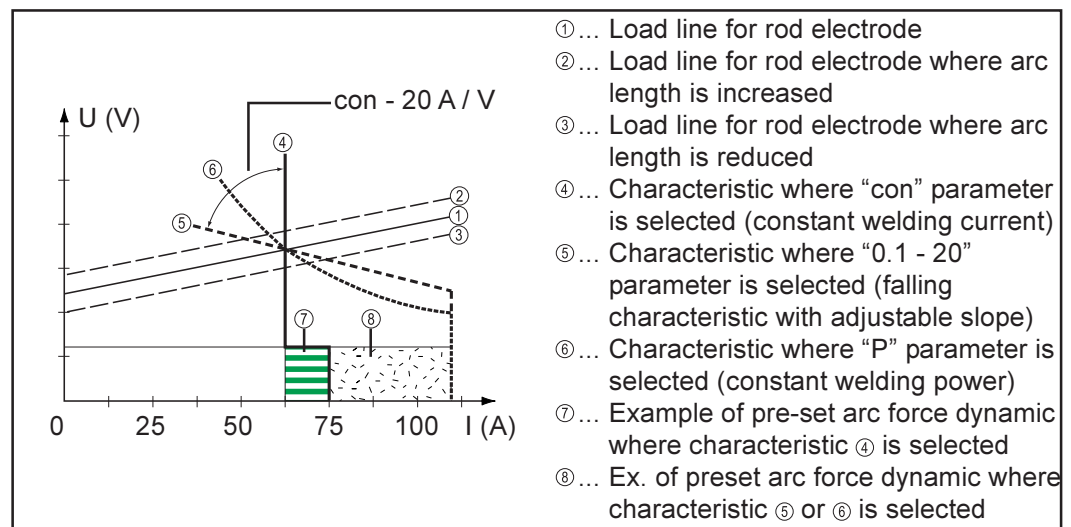

Fig.25 Characteristics that can be selected using the Eln function
- If the “P” parameter has been set, the welding power is kept constant, irrespective of the welding voltage and welding current. This results in a hyperbolic characteristic ⑥ (Fig. 25).